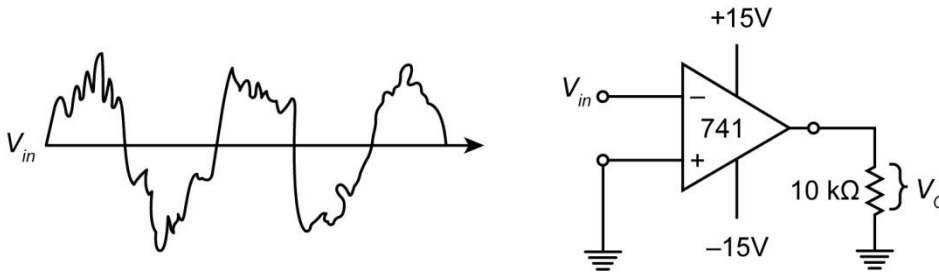

Fig. 14.21: Irregular input to an inverting comparator.
- Trace the output waveform of the circuit for the given input as shown in Fig. 14.21.